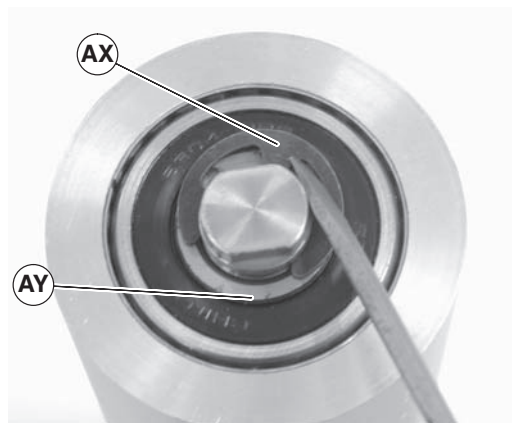

Figure 38
5. Remove the pulley shaft assembly: remove the clip ring (Figure 38, item AX) and washer (AY) from one side of the pulley assembly.